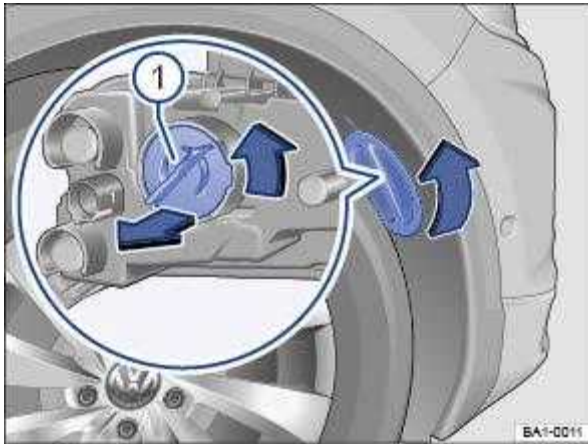

Fig. 168 In the front right wheel housing liner: changing a turn signal bulb.
① Observe and follow the instructions in the checklist ⇒ Checklist Information on changing bulbs .
② Turn the steering so that the wheel on the affected side of the vehicle is pointing to the middle of the vehicle. If necessary, start the engine to do this. Then stop the engine again and remove the vehicle key from the ignition lock.
③ Turn the cover in the wheel housing liner in the direction of the arrow and remove it ⇒ Fig. 168 .
④ Release the connector ⇒ Fig. 168 ① and detach it.
⑤ Turn the bulb holder ⇒ Fig. 168 ② anti-clockwise (arrow) as far as it will go and pull it out to the rear along with the bulb.
⑥ Replace the defective bulb with a new bulb of the same type.
⑦ Insert the bulb holder into the headlight and turn it clockwise as far as it will go.
⑧ Fit the connector ⇒ Fig. 168 ① on the bulb holder ⇒ Fig. 168 ②. The connector should click into place.
⑨ Fit the cover in the wheel housing liner ⇒ Fig. 168 and lock it in position.